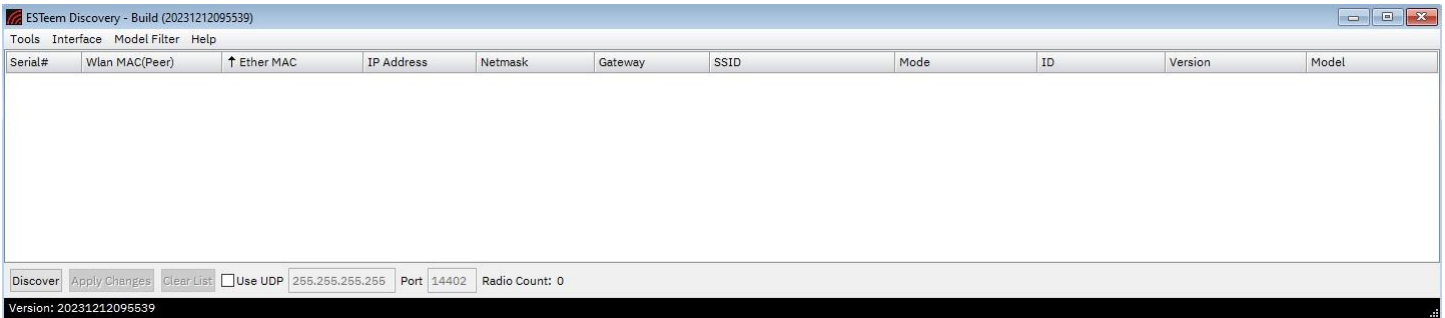

Figure 1: ESTeem Discovery Utility
1. Once the above program has been installed, navigate to the location on your computer where the file was installed and open estDiscovery.exe. You can also use the Start Menu with Windows and find the ESTeem Software Suite folder to easily open any of the Utilities, whichever way the utility is opened Figure 1 will be displayed.